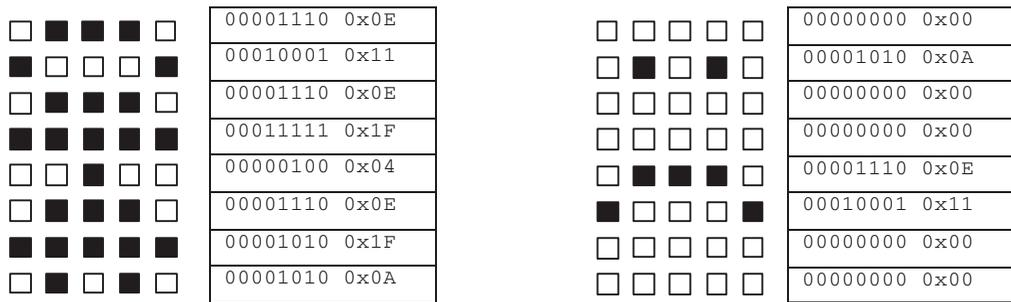

Figure 8-13: LCD character definition
Each custom character is defined as a sequence of bytes, each bit representing horizontal lines of pixels that are on (1) or off (0). The figure shows two examples of how these custom characters are defined. This data is sent to the LCD by first sending the LCD a command to select the internal LCD memory address and then writing a sequence of data to the LCD for it to interpret as a custom font. Figure 8-13 shows an example character definition.